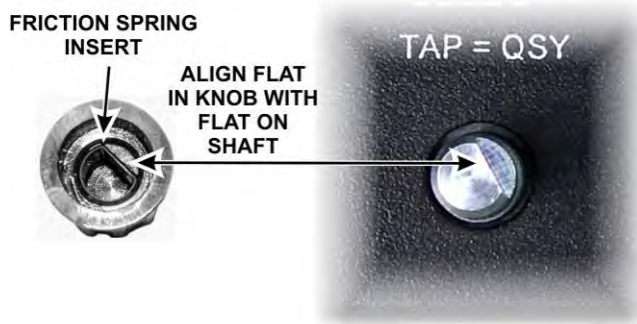

Figure 31. Installing the Knob.
□ Check to ensure the knob has its spring insert in place, then press it onto the shaft. Be sure the flat on the shaft is aligned with the flat surface in the knob (see Figure 31). The control has a built-in switch so do not be surprised to hear a click when you press the knob onto the shaft. The knob will stand above the surface of the front panel to allow room for the knob to move when operating the switch. Also, some side-to-side movement of the knob is normal in a control of this type with a built in switch.
To remove the front panel board and gain access to the LCD, remove the knob (see Figure 31 on page 43) and the four screws on the plastic bezel (Figure 30). That will free both the front panel board assembly and the plastic bezel. Take care not to scratch the bezel or lose the screws. You will need to tilt the front panel board assembly to remove it from the front cover sheet metal.